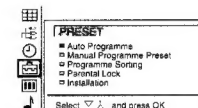

Fig. 3
- Select the symbol for »Preset« with  $\Delta$  or  $\nabla$  and press OK. The PRESET menu appears. (See Fig. 3.)